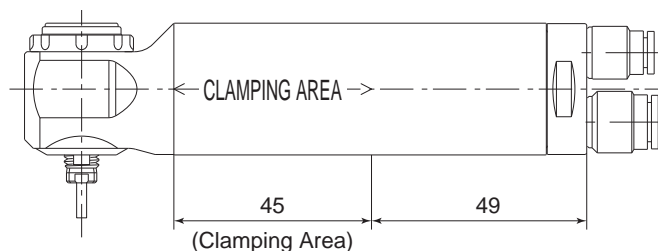

Fig. 6
- ① When mounting an Air Motor Spindle, refer to the Clamping Area etched on the Air Motor Spindle (Fig. 6).